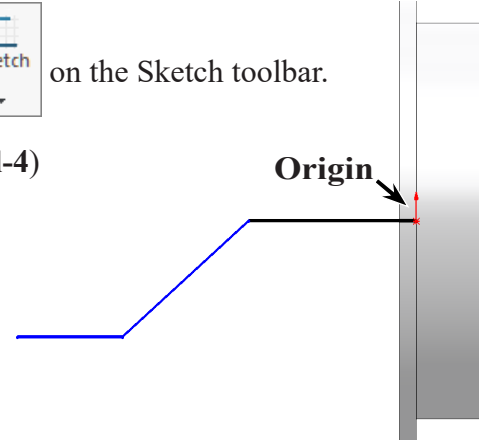

Fig. 10
Step 4. Click **Line**  (L) on the Sketch toolbar.
Step 5. Starting from the Origin  sketch **three short lines (along Z), Fig. 10. First and third lines horizontal**  along Z , second line at down angle.